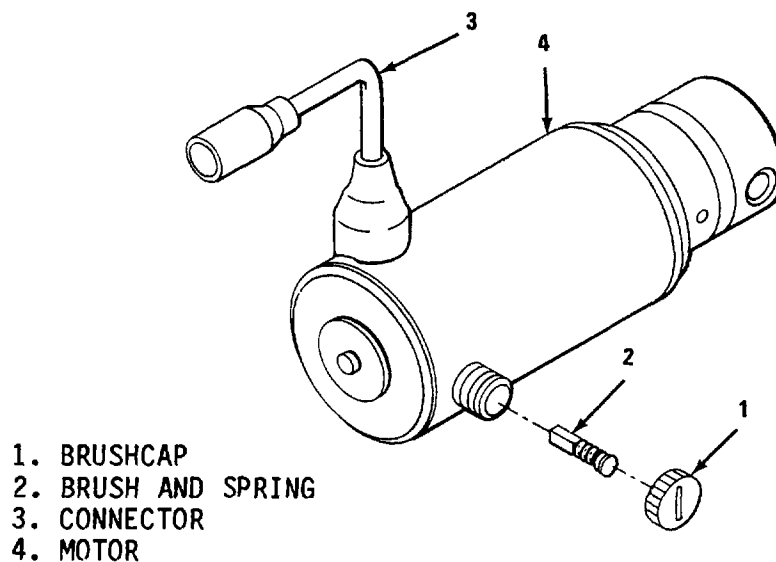

Figure 5-10. Coolant Pump and Motor Assembly
(2) Refer to figure 5-10. Remove brushcaps (1) and check motor brush and springs (2) for damage or excessive wear. Brushes should be at least 1/4 inch (635 mm) long.
(3) Inspect connector (3) for bent pins.
b. Repair. Repair of the coolant pump and motor assembly consists of replacing the brush and spring (refer to figure 5-10). Replace brushes which are less than 1/4-inch (635 mm) long.